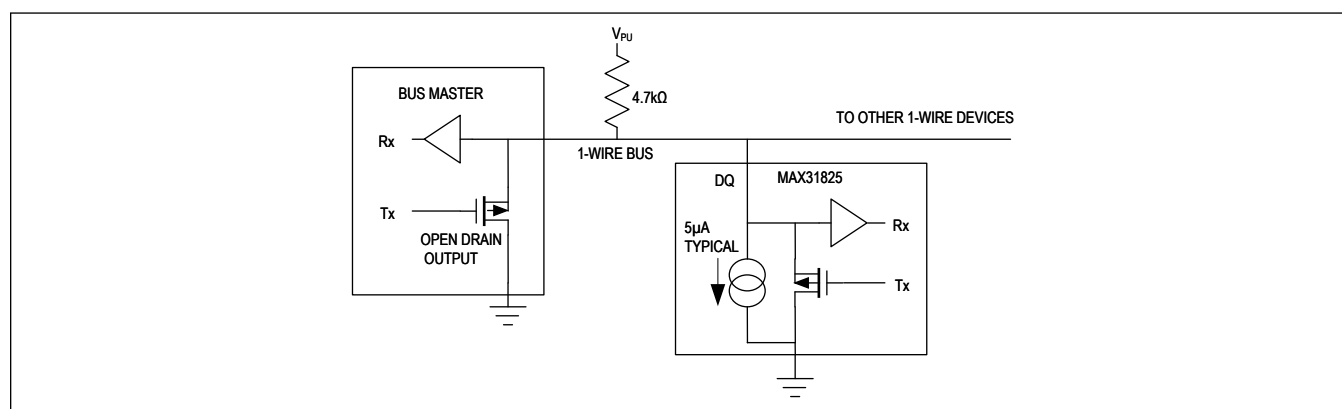

Figure 6. Hardware Configuration
The 1-Wire bus has by definition only a single data line. Each device (master or slave) interfaces to the data line by using an open-drain or three-state port. This allows each device to “release” the data line when the device is not transmitting data, thereby making the bus available for use by another device. The device’s 1-Wire port (DQ) is open drain with an internal circuit equivalent to that shown in Figure 6.